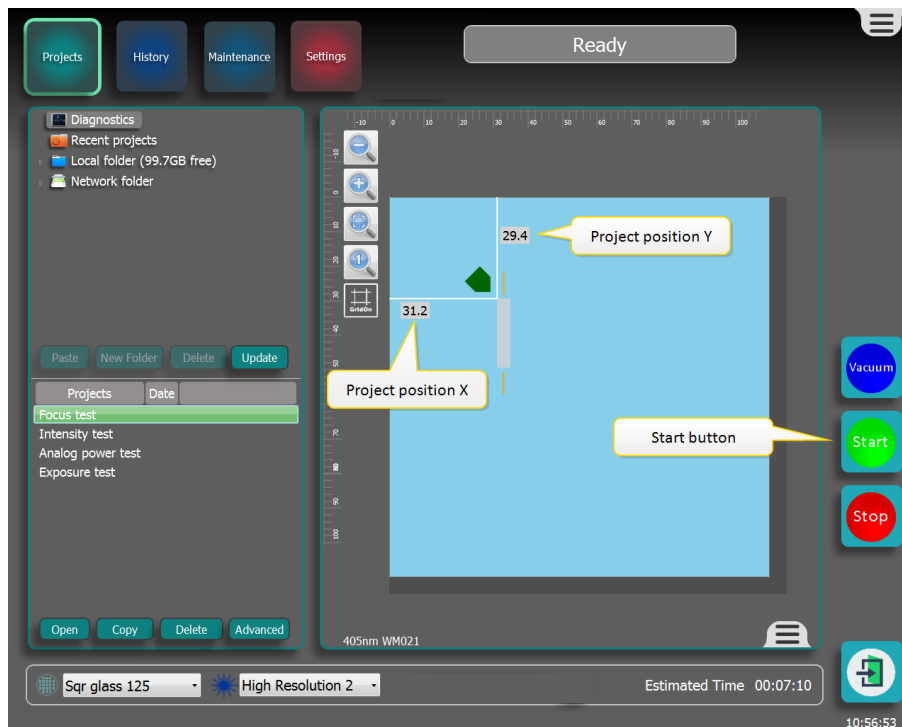

Figure 3-144 Starting a project queue
1. Make sure all projects are at the desired position on the substrate, see **Figure 3-144 on the facing page**.
4. To start the project or, if present, the project queue, press the Start button, see **Figure 3-144 on the facing page**